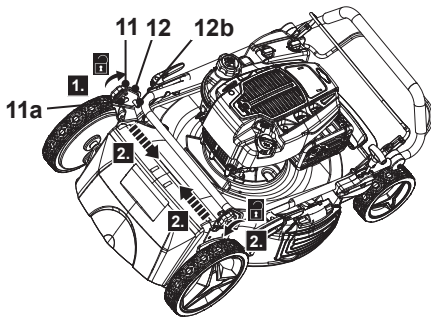

Fig. 1
2. Unscrew the two locking knobs (11) anti-clockwise from the handle brackets (12), then take off the locking knob (11), the washer (11b) and the mounting bolt (11a) afterwards (Fig. 1, steps 1, 2). Keep them handy to avoid loss.